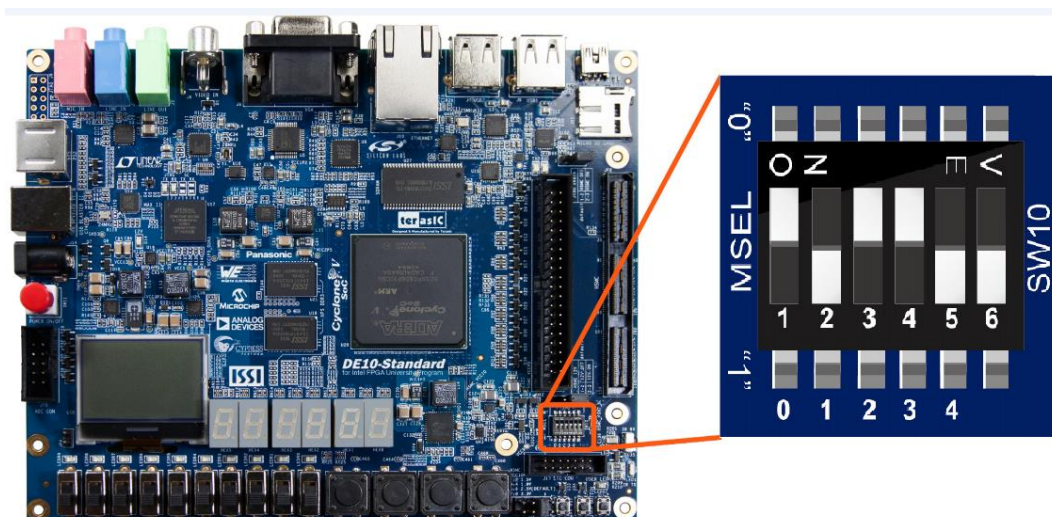

Figure 3-1 DIP switch (SW10) setting of Active Serial (AS) mode on DE10-Standard board
When the DE10-Standard board is powered on, the FPGA can be configured from EPCS or HPS. The MSEL[4:0] pins are used to select the configuration scheme. It is implemented as a 6-pin DIP switch **SW10** on the DE10-Standard board, as shown in **Figure 3-1**.
**Figure 3-1** shows MSEL[4:0] setting of AS mode, which is also the default setting on DE10-Standard. When the board is powered on, the FPGA is configured from EPCS, which is pre-programmed with the default code. If developers wish to reconfigure FPGA from an application software running on Linux, the MSEL[4:0] needs to be set to "01010" before the programming process begins.